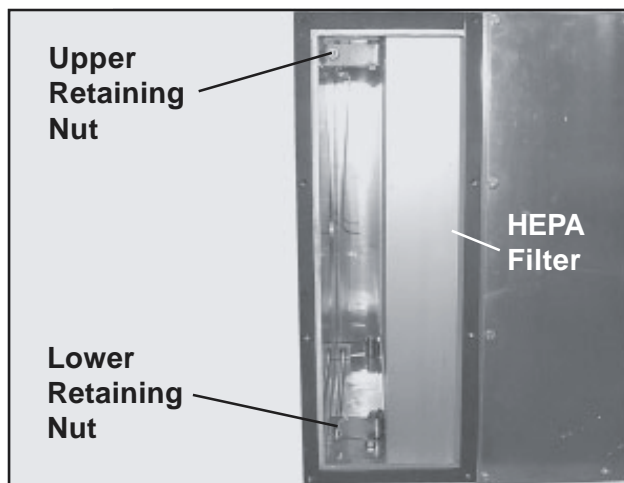

Figure 103. HEPA Filter Retaining Nuts
8. With a 7/16 in. nut driver, loosen the upper and lower retaining nuts that hold the HEPA filter in place (Figure 103).
4. Tighten the two retaining nuts to hold the filter in place (Figure 103). **Note:** Tighten the nuts enough to squeeze the filter snugly against the blower motor housing for an airtight fit.